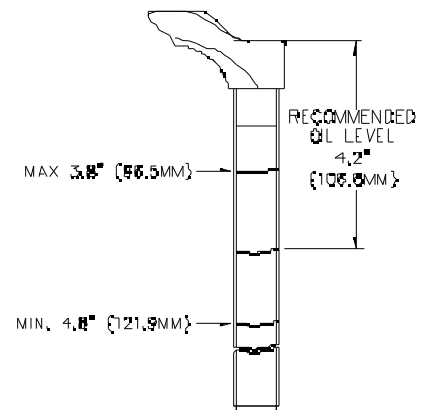

FIGURE 7: TPC OIL LEVEL
To check the oil level remove only the compression damping assembly located in the top of the right leg. Leave the left side compression stack (adjuster, MCU, spring assembly) in place to keep the fork fully extended. Use a tape measure or “dip stick” to determine the oil level. Oil level should be between 3.5” (89MM) and 4.75” (120MM) below the crown where the damping assembly screws in. The recommended level is 4.00” (101MM). It is recommended that you replace your oil at least once during the season, twice if it has been contaminated with dirt, mud, or other foreign substance. Use SAE 5WT Maxima fork oil or equivalent. See Figure 7.
4. For MAGNUM R only, Fill right leg with oil. Refer to Figure: 7 for recommended oil level.